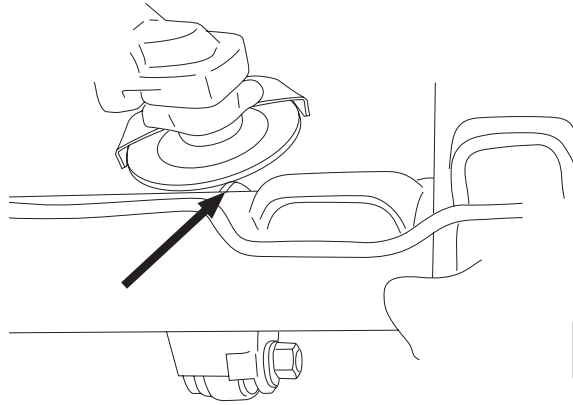

fig. 7
4. Due to manufacturing tolerances, the shock mounting bracket may stop the lower bracket from sitting completely flat on the axle housing/jounce bumper pad. This may occur on only one side of the vehicle. In such instances, it will be necessary to use a grinder to trim the shock bracket until it is flat with the top of the axle housing (Figure 7).